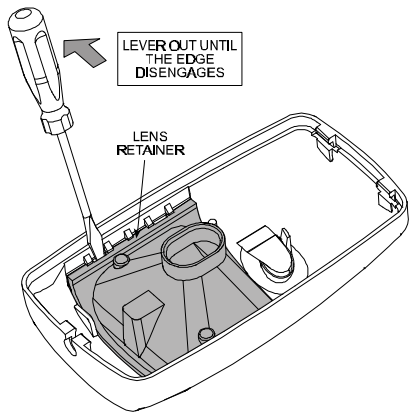

Figure 11. Releasing the Lens Retainer
- A. Separate the lens retainer from the front cover, as shown in Figure 11.